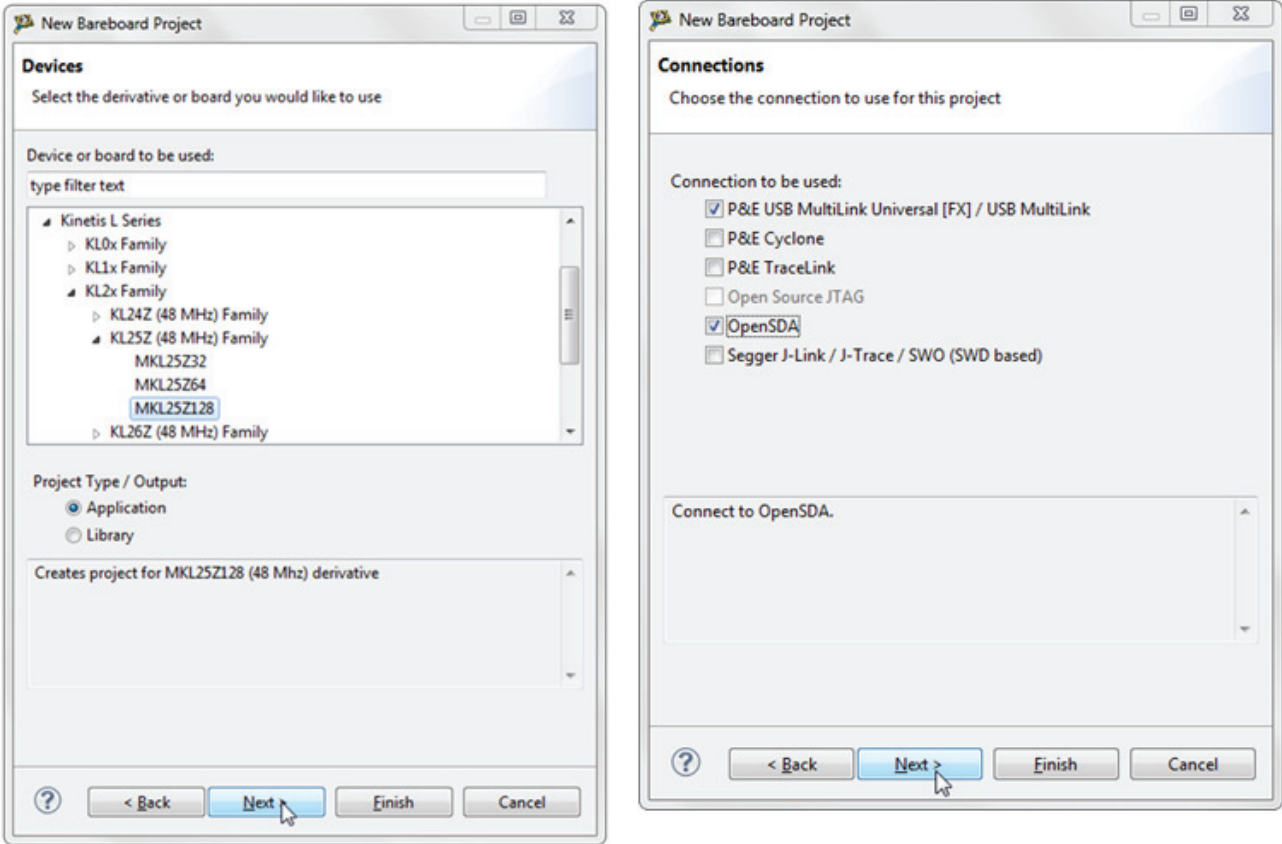

Figure 10. Select the MCU class and connections
2. Choose the MCU class to be used in the freedom MCU board (MKL25Z128 in this example). Then select the connections to be used (see Figure 10).